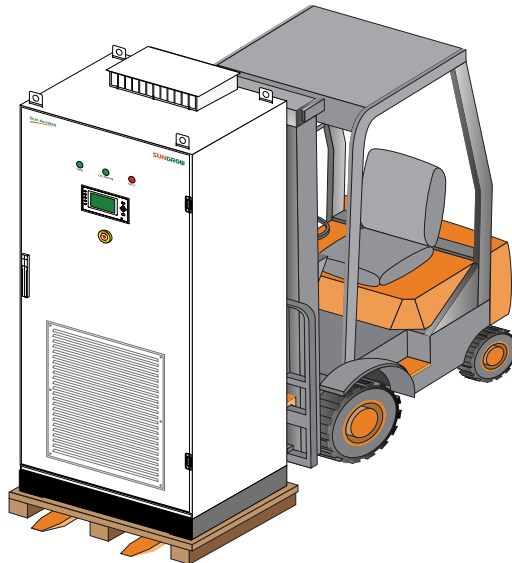

Fig. 7-2 Move the unpacked inverter with wooden baseboard
- If the unpacked inverter is far from the installation position, it can be moved together with the wooden baseboard by a forklift truck, see Fig. 7-2.